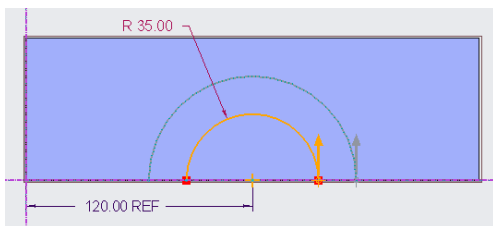

Figure 15-119 Sketch of the blend surface
6. Now, draw another arc of diameter **35**, as shown in Figure 15-119.